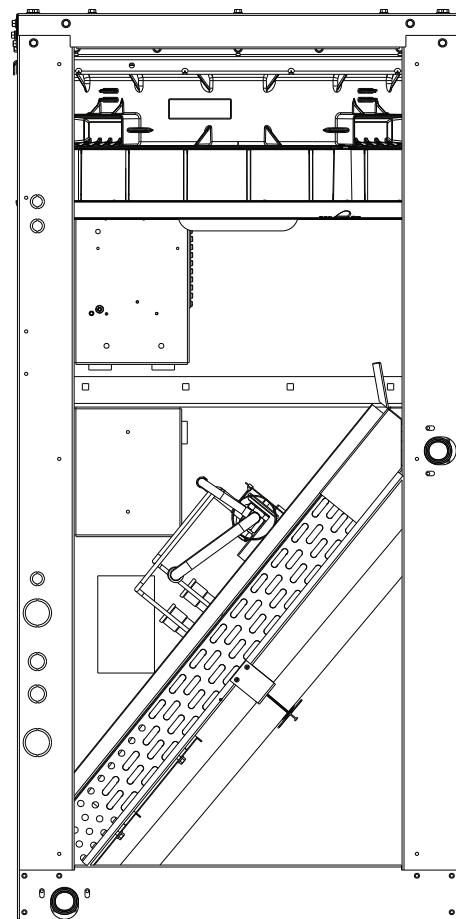

Fig. 43 — Fan Assembly, Side Panel Access (Side Panel Removed)
4. Slide fan assembly out of the panel opening that is being used. Side panel access will require the assembly to be angled to clear the opening. See Fig. 43.